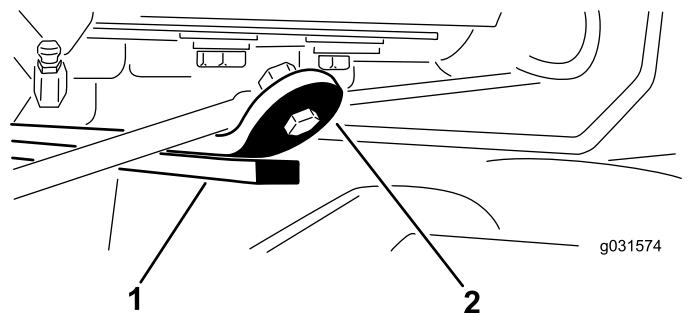

Figure 15
3. Start the engine, raise the cutting units, and ensure that the clearance between the wear strap on the top of the rear-cutting-unit wear bar and the bumper strap is 0.51 to 2.54 mm (0.02 to 0.10 inch) as shown in Figure 15.